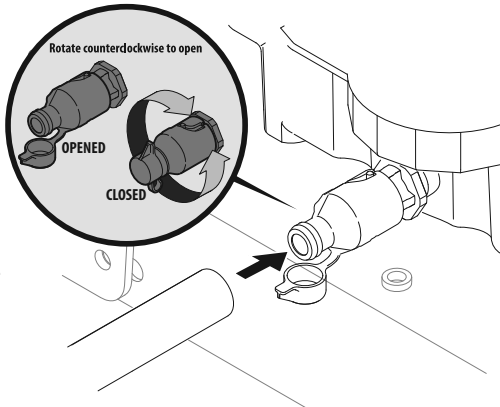

Figure 24
4. Open the protective cap on the end of the oil drain valve to expose the drain port. See Figure 24.